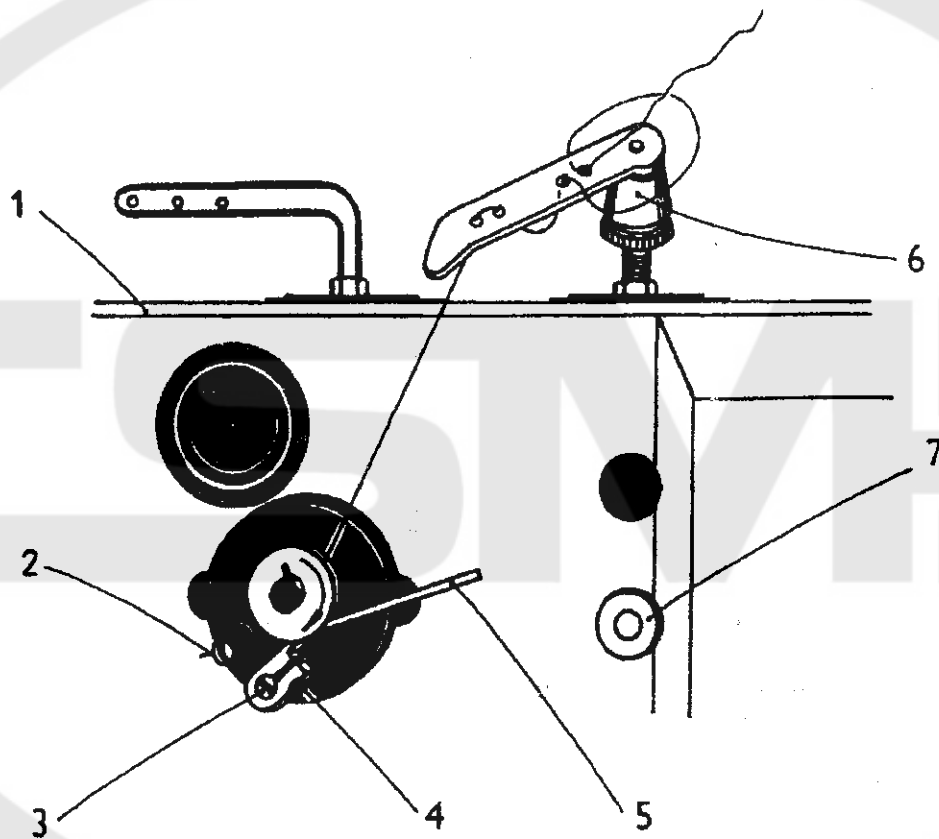

Fig. 5
9. To wind the hook bobbin (Fig. 5)